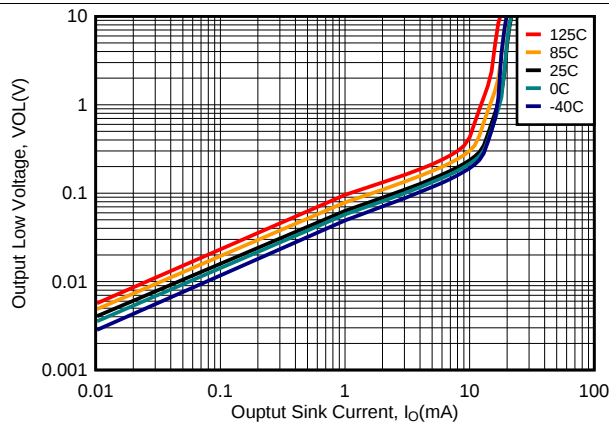

图 5. Output Low Voltage vs. Output Current
Output current is determined by the load/pull-up resistance and logic/pull-up voltage. The output current will produce a output low voltage ( $V_{OL}$ ) from the comparator. In which  $V_{OL}$  is proportional to the output current. Use 图 5 to determine  $V_{OL}$  based on the output current.
- $R_{CE}$  can be determine by taking the slope of 图 5 in it's linear region at the desired temperature, or by dividing the  $V_{OL}$  by  $I_{out}$